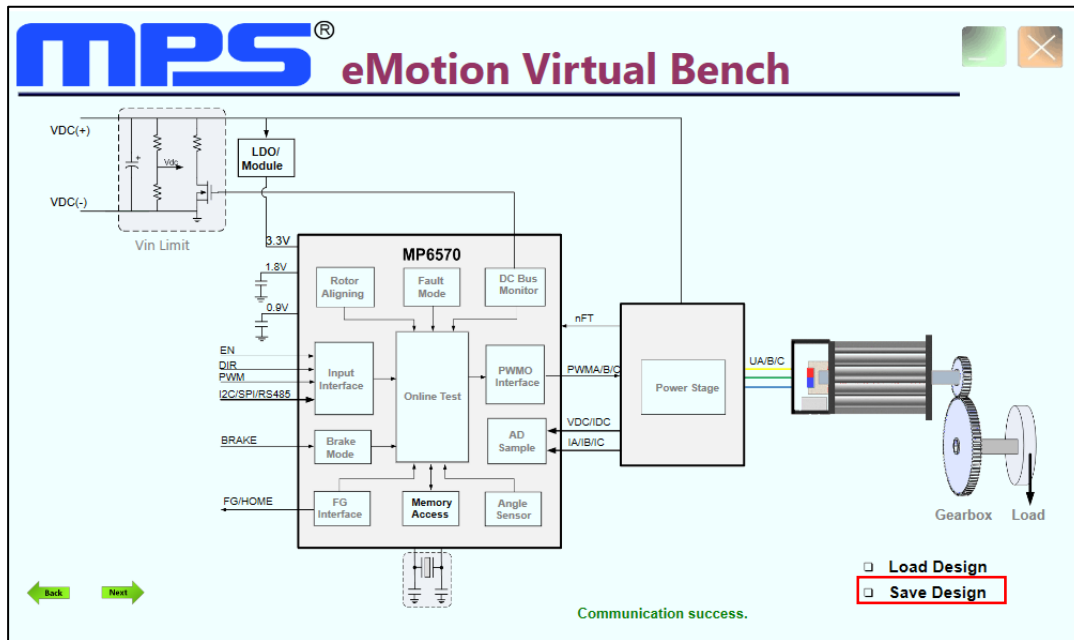

Figure 14: Save the Parameters with “Save Design”
- Click the “Save Design” button to save the parameters (see Figure 14).